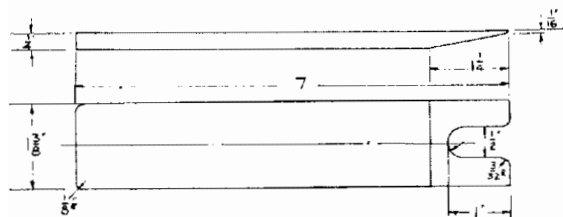

FIG 10 Magneto sprocket remover
**NOTE**—Use a tyre lever with one end bent at right angle to prise off the lower magneto sprocket. To remove top sprocket, slacken off all timing cover screws, use tool B 4018 (see Fig. 10), inserted between magneto sprocket and magneto body. With the armature nut removed, a light tap on the tool will dislodge sprocket. A tool to prevent the engine turning (top gear engaged) whilst unscrewing the gear box mainshaft nut and also engine sprocket nut is shown in Fig. 8, which is easy to fabricate.